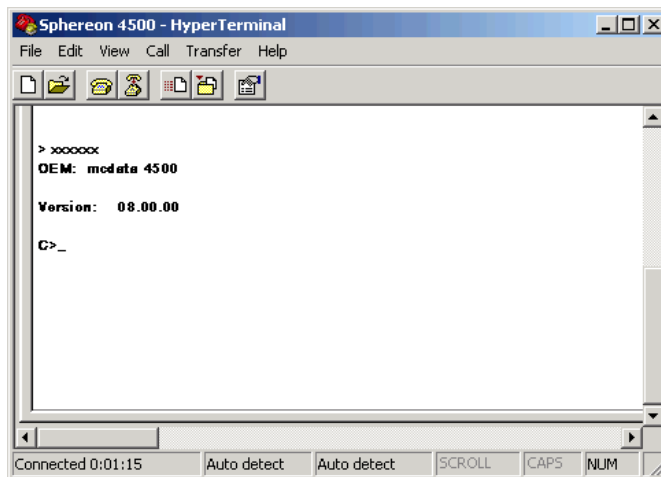

Figure 3-27 Sphereon 4500 - HyperTerminal Dialog Box
- j. At the **C>** prompt, type **ipconfig** and press **Enter**. The *Sphereon 4500 - HyperTerminal* dialog box displays with configuration information listed, including the IP address (Figure 3-27).